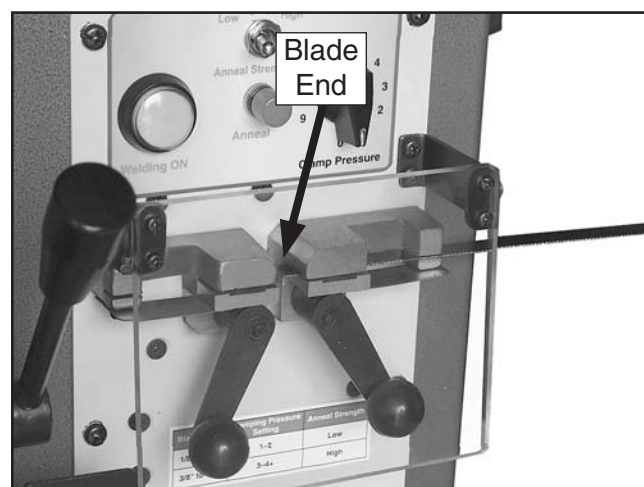

Figure 13. Blade end properly position in welding clamp and locked in place.
5. Position the back of one blade end evenly against the back of the right welding clamp so that the end is midway between the two clamps, as shown in **Figure 13**.